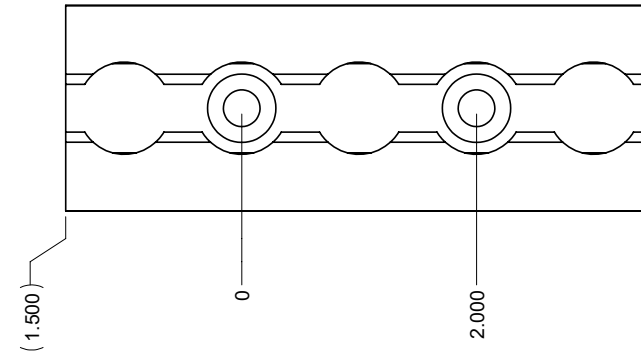

FIG 3
**2.1 Identify L-Track Extrusions:** See FIG 3 and 4 for relevant dimensions and which L-Tracks are spaced for the **Upper** and **Lower** ends of the **Bed Brackets**.